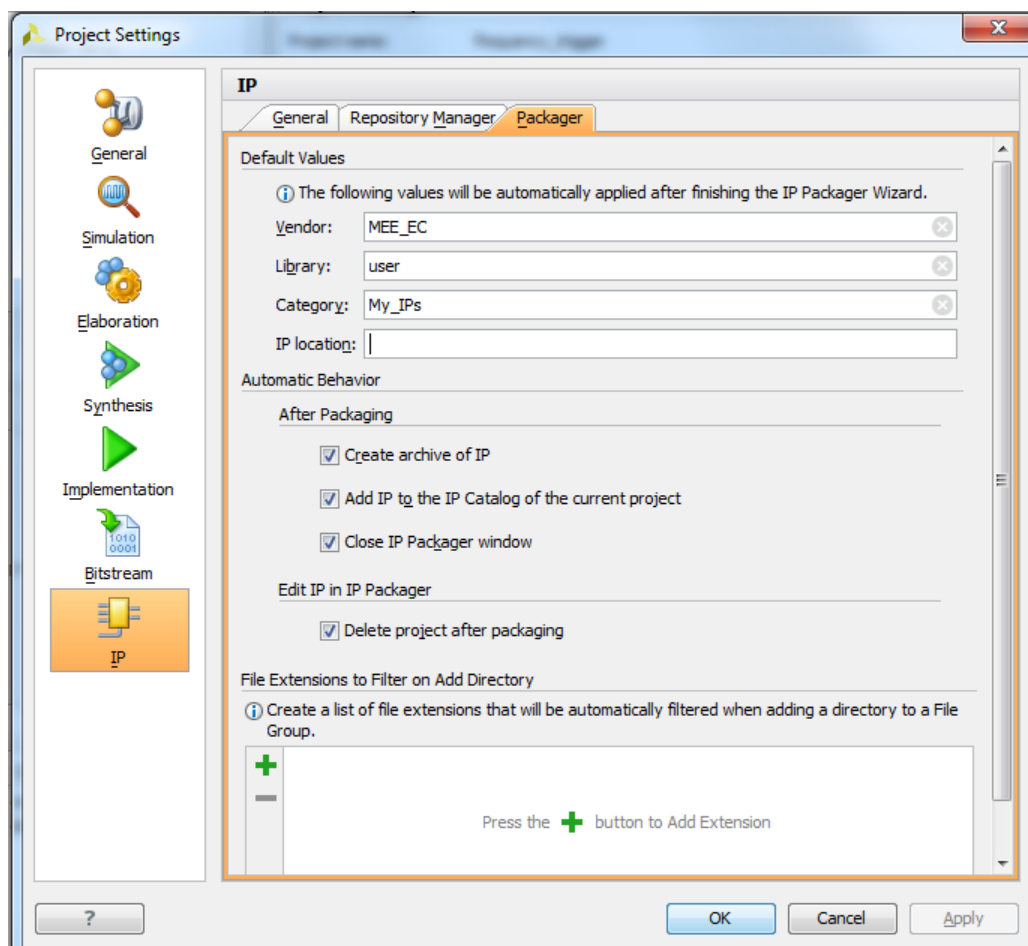

Figure 4. Packager window with configured settings that will be applied after packaging process
- 2-1-1. In the Vivado **Flow Navigator**, under the **Project Manager**, click **Project Settings** command and choose **IP** from the left pane, see Figure 4. Global IP project settings are available to help you be more productive when customizing IP.
2-1-2. In the **IP** window, select **Packager** tab and fill the fields as it is shown on Figure 4 and click **OK**.